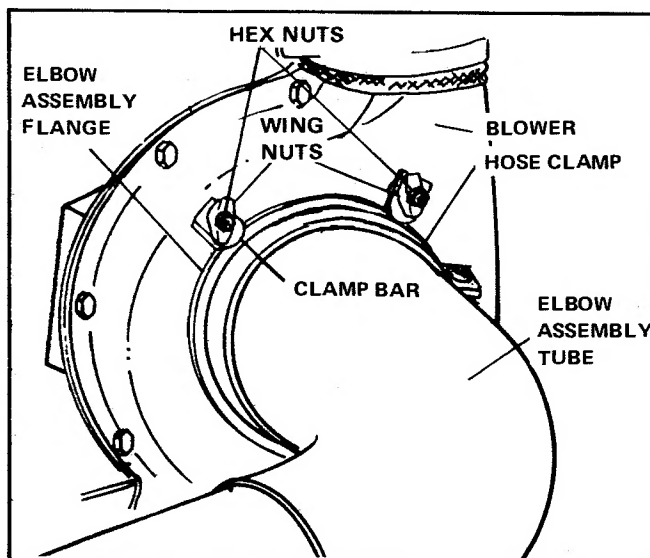

Figure 3. Installing Inlet Tubes
7. Slide the inlet tube over the vacuum collector adaptor end, and slide the other end of the inlet tube into the short side of the inlet elbow. (See figure 3.)
8. Slide the inlet flange (on the long side of the inlet elbow) into the retaining clips on the blower housing. Slide the two clamp bars over the flange and tighten the clamp bars with the two wing nuts (see figure 3).